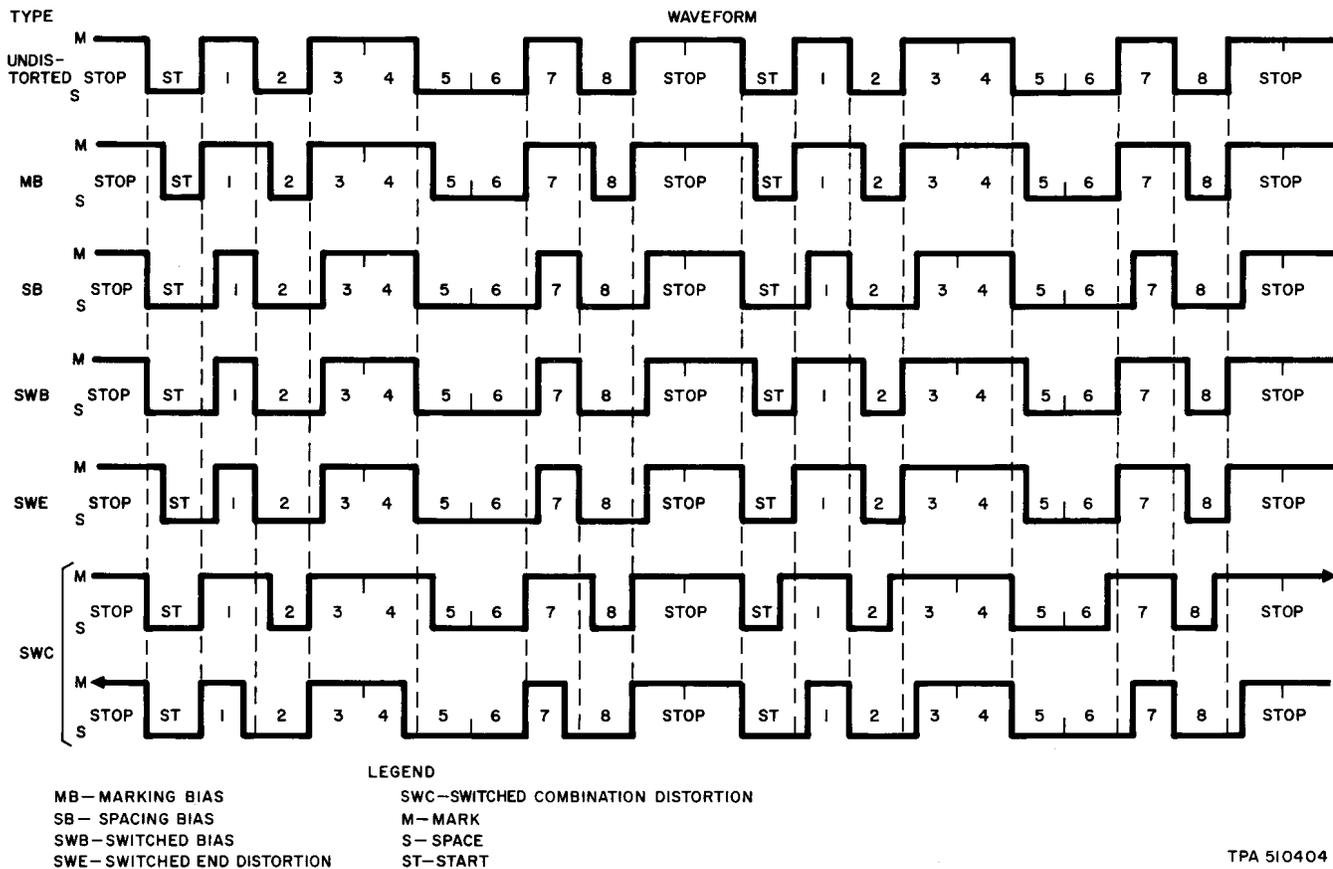

Fig. 1—911G Test Sentence Generator—Types of Distortion
1.07 Using the BIAS, DIST 5%, and DIST 1% control switches, the TSG may be conditioned to generate a signal of the desired code and speed containing a predetermined amount of distortion. The types of distortion generated, in relation to an undistorted signal, are illustrated in Fig. 1. In instances where the mark-to-space transition of the start pulse has been delayed, the entire waveform must be shifted in order to see the distortion as it will appear to the receiving device.
3.05 The BIAS switch (Table B) conditions the TSG to introduce the type of distortion that is desired in the test output (Fig. 1). An undistorted output is generated when the BIAS switch is set to the "0" position. Any amount of distortion up to a maximum of 49 percent may be generated in 1-percent increments by adjusting the DIST 1% and DIST 5% switches (Table B).